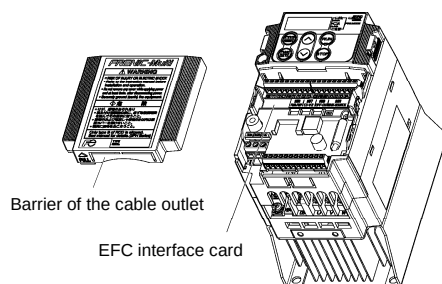

Figure 1.3
- (4) For inverters of 0.75 kW or below: Before reinstalling the terminal cover, cut off the barrier (see Figure 1.3) of the terminal cover using nippers or the like
- (5) Reinstall the terminal cover, taking care not to pinch control signal lines.